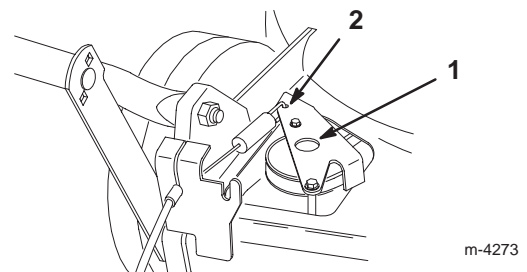

Figure 26
4. Push the drive bracket down until it contacts the lawn mower, then hold it in place (Fig. 26).